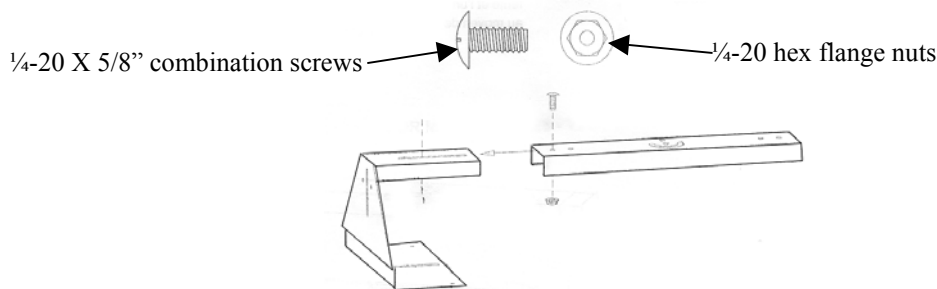

Figure 2. End Plate to Outer
2. Slide one end plate assembly into the outer channel, aligning the slot with one of the holes, and **loosely** attach using two 1/4-20 X 5/8" combination screws and 1/4-20 hex flange nuts (see Figure 2).